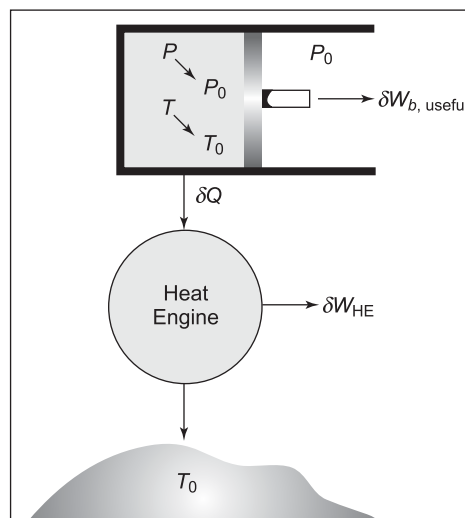

Figure 7.3 Work done against surrounding and useful work
We know, from the first law of thermodynamics that actual work done during a process is $W = Q (1 - T/T_{\text{sink}})$. Now, if during the process, the volume of the system gets increased. The total work done (W) will have two components (Figure 7.3):